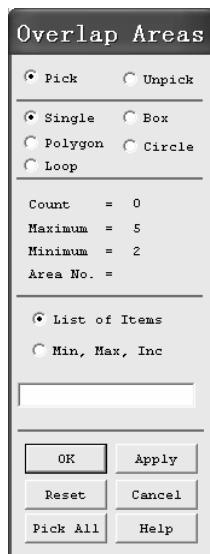

图 2-76 “Overlap Areas”窗口
(3) 依次选择 Main Menu>Preprocessor>Modeling>Operate>Booleans>Overlap>Areas，弹出“Overlap Areas”窗口（见图 2-76），单击“Pick All”按钮对两个面进行重叠运算。